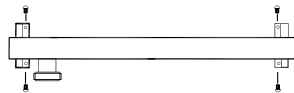

Fig. 62
7.14.4 Pull the manifold up and out from the combustion chamber (Fig 62).